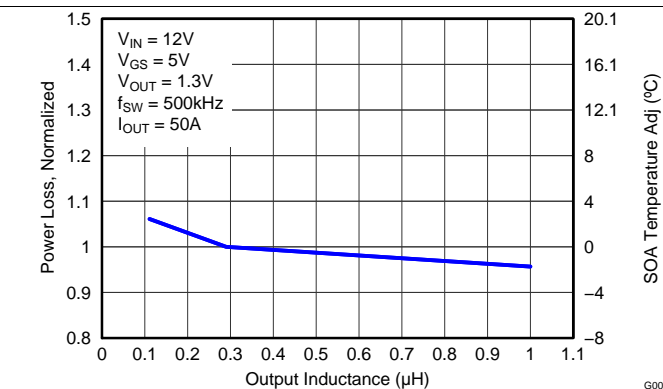

Figure 10. Normalized Power Loss vs Output Inductance
- Normalized power loss for output inductor  $\approx 1.03$  (Figure 10)
- SOA adjustment for output inductor  $\approx 1.3^\circ\text{C}$  (Figure 10)